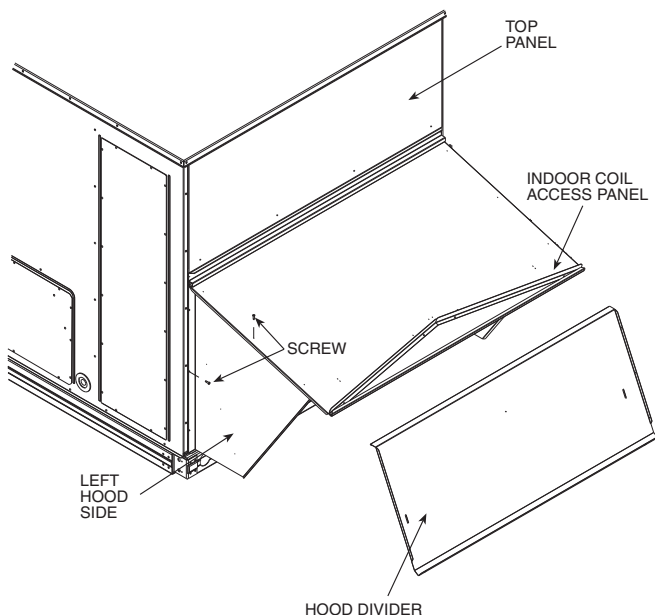

Fig. 17 — Economizer Hood Construction
2. Swing out indoor coil access panel and insert the hood sides under the panel (hood top). Be careful not to lift the panel too far as it might fall out. Use the screws provided to attach the hood sides to the hood top. Use screws provided to attach the hood sides to the unit. See Fig. 17.
4. Insert the hood divider between the hood sides. See Fig. 17 and 18. Secure hood divider with 3 screws on each hood side. The hood divider is also used as the bottom filter rack for the aluminum filter.